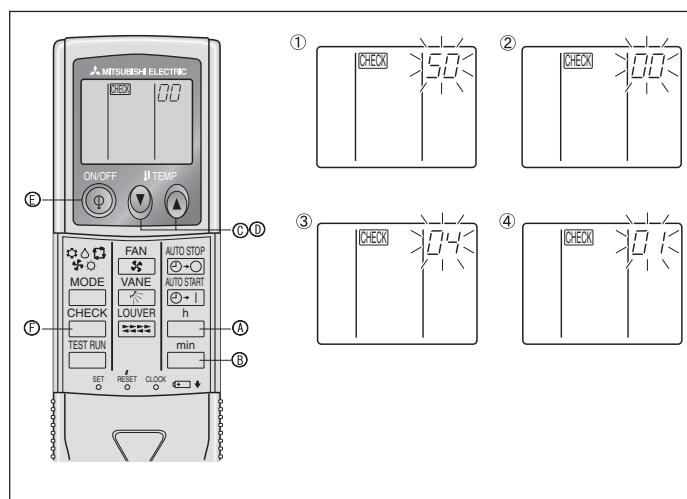

Fig. 6-10
- ⑧ Press the MODE button **⑪** and mode and the setting number (1) and (2) will change to being on constantly and the contents of the setting can be confirmed.
- ⑨ Press the FILTER **⑧** and TEST RUN **⑩** buttons simultaneously for at least two seconds. The function selection screen will disappear momentarily and the air conditioner OFF display will appear.
2) For wireless remote controller (Fig. 6-10)